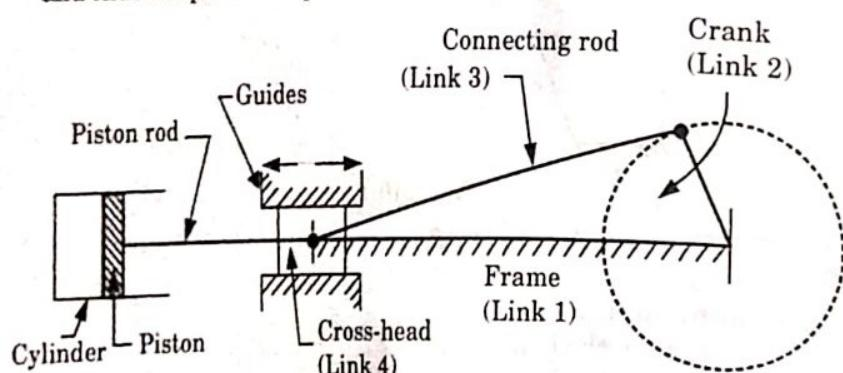

Fig. 1.11.1.
3. In Fig. 1.11.1, links 1 and 2, links 2 and 3 and links 3 and 4 form three turning pairs while the links 4 and 1 form a sliding pair.